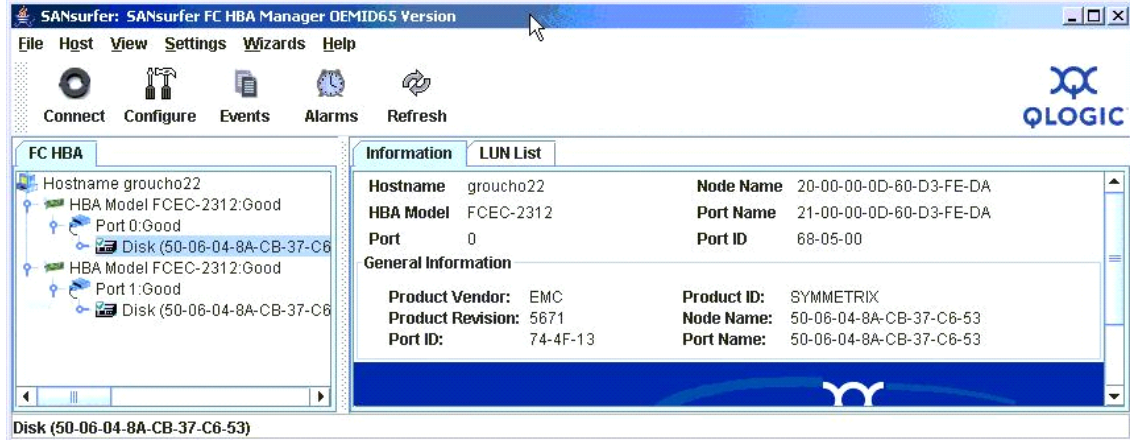

Figure 111 SANsurfer, SANsurfer FC HBA manager
On a Windows Server start the SANsurfer application, which includes the SANsurfer FC HBA Manager GUI. When complete, the SANsurfer application GUI displays. (Refer to the **SANsurfer FC HBA Manager** main window, as shown in Figure 111 on page 130).
- Click **Cancel** to abort the connection process and return to the **SANsurfer FC HBA Manager** main window, as shown in Figure 111 on page 130.